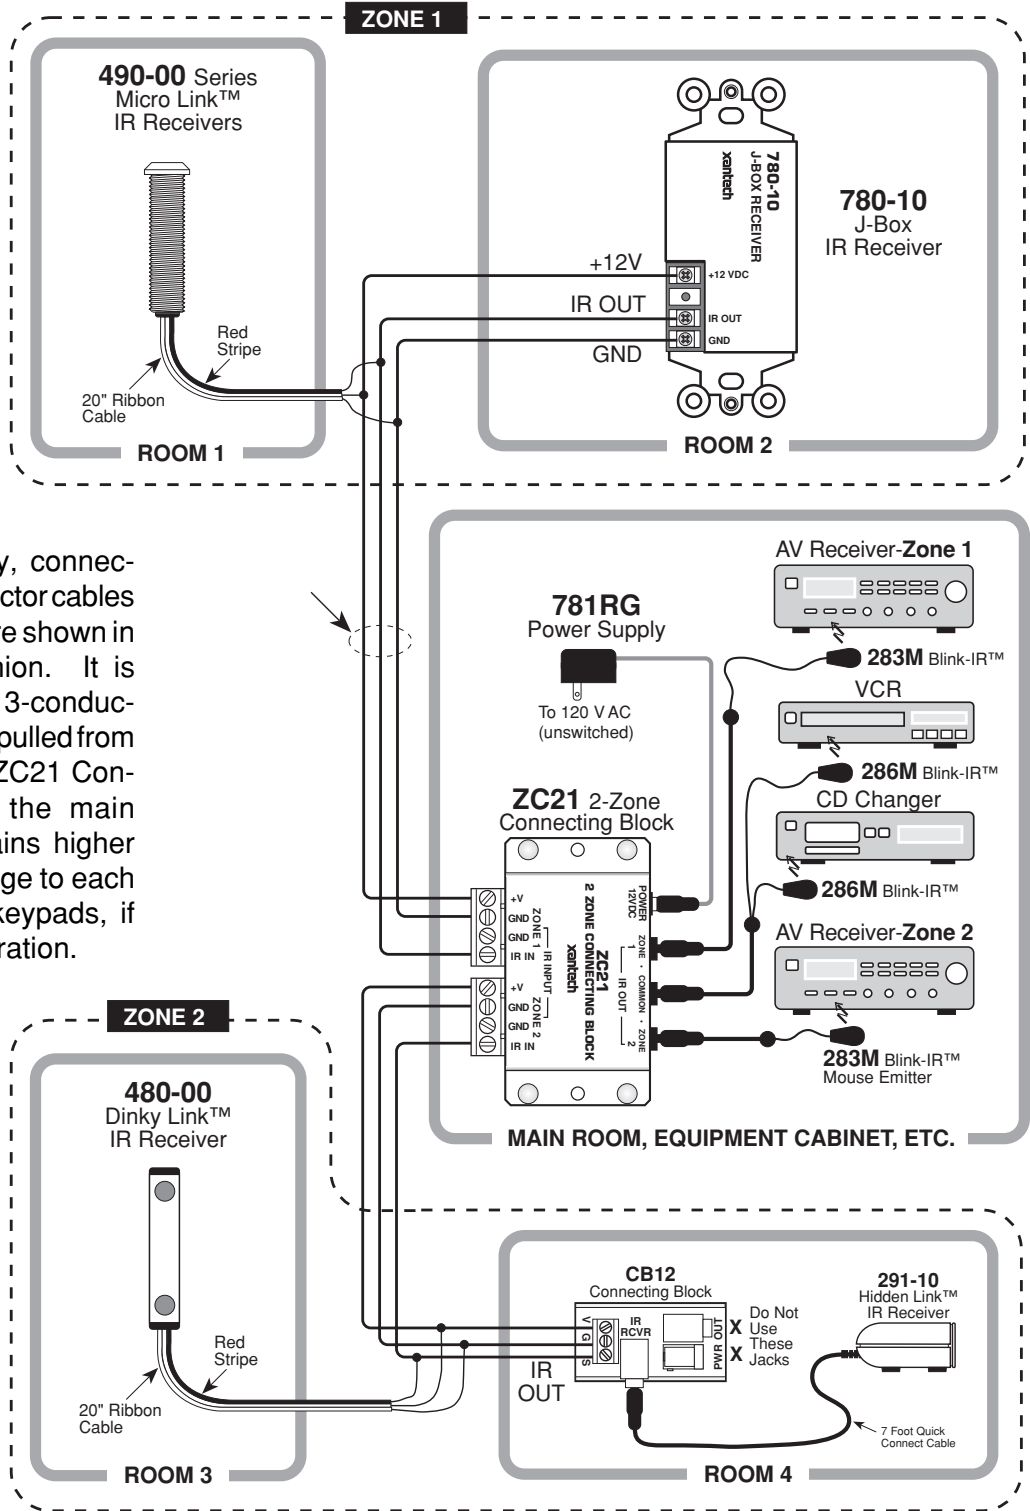
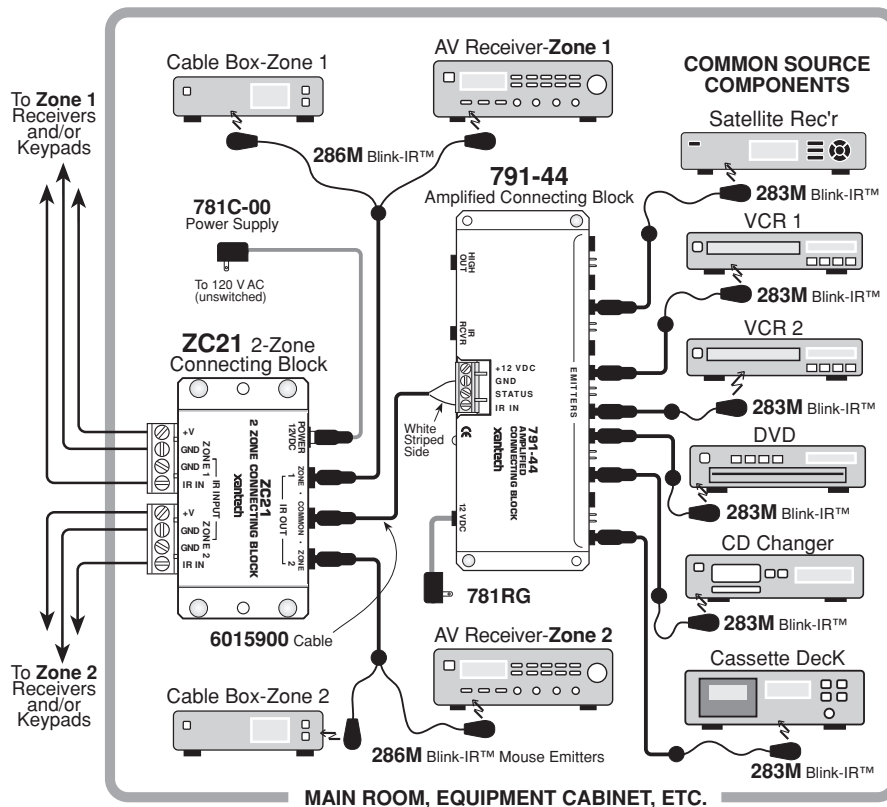

Fig. 2 A typical 2-Zone Installation
Fig. 3 Using a 789-44 Connecting Block for Emitter Expansion
**Fig. 2** shows a typical 2-zone installation with a total of four remote rooms. A variety of Xantech IR Receivers are shown, two in each zone. Even more may be wired in parallel, in the same manner as shown, up to a maximum of twelve. More than twelve is not recommended because IR noise picked up by the many IR receivers may cause erratic operation and reduce remote control range.
Fig. 2 shows 286M Dual Blink IR™ emitters connected to the single common emitter port on the ZC21 for the common operation of 2 source components. If you need to control more than two, a 791-44 Amplified Connecting Block may be used. Fig. 3 illustrates a 791-44 driving six emitters for control of six common components. Up to ten single or 10 dual emitters may be driven directly from the 791-44. Expansion beyond ten can also be accomplished by plugging a 790-00 Connecting Block into the HIGH OUT jack of the 791-44.